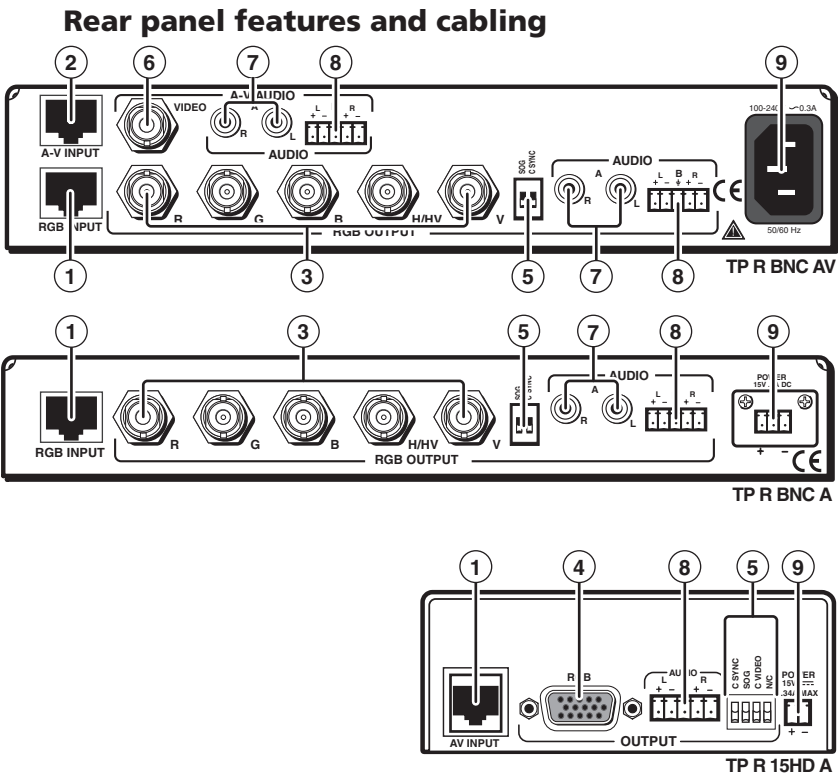

Figure 2-7 — Installation features, TP receivers
- ① **RGB video input connector** — Attach one end of a TP cable to this RJ-45 female connector (see figure 2-7). Attach the other end to an Extron TP 15HD or BNC transmitter. See “Termination of TP cable” on page 2-17 for pin assignments.